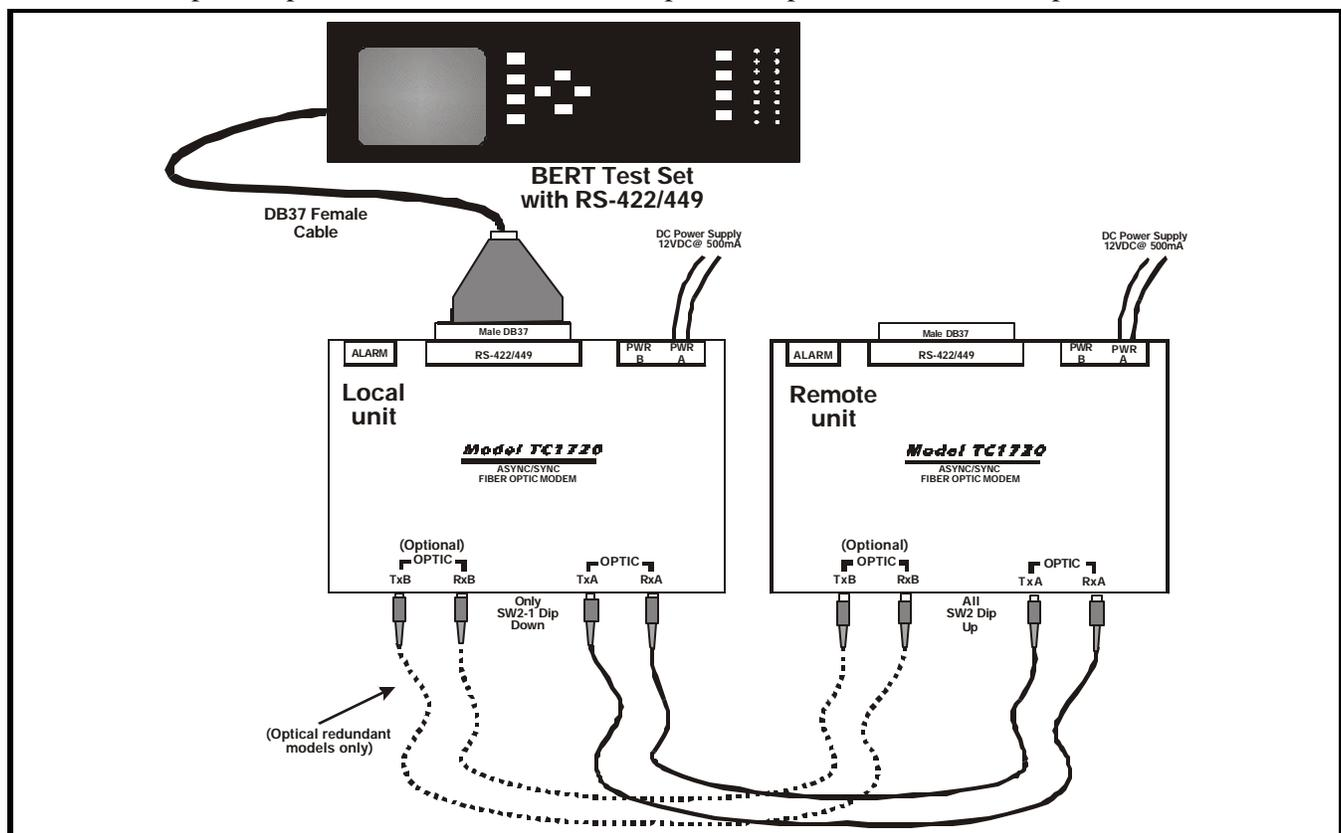

Figure 8. Remote Optical Loopback Test Connection Diagram
2. Set up the bench test as illustrated in Figure 8 below.